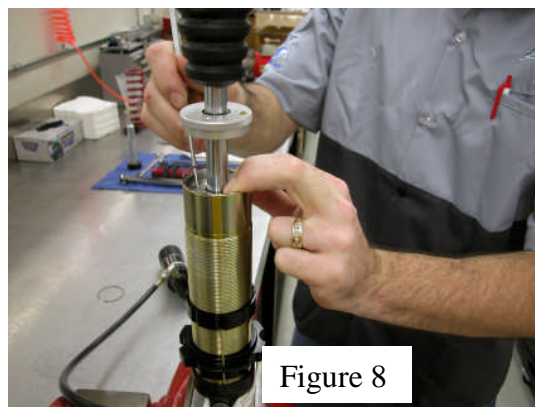

Figure 8
13. Using your fingertips, depress the bearing into the body tube to expose the wire-retaining ring. Locate the end of the ring and push inward with your fingertip. Remove retaining ring. A scribe or dental pick can also be used for this step, but use extreme caution not to scratch the bore of the body tube. **(Figure 8)**